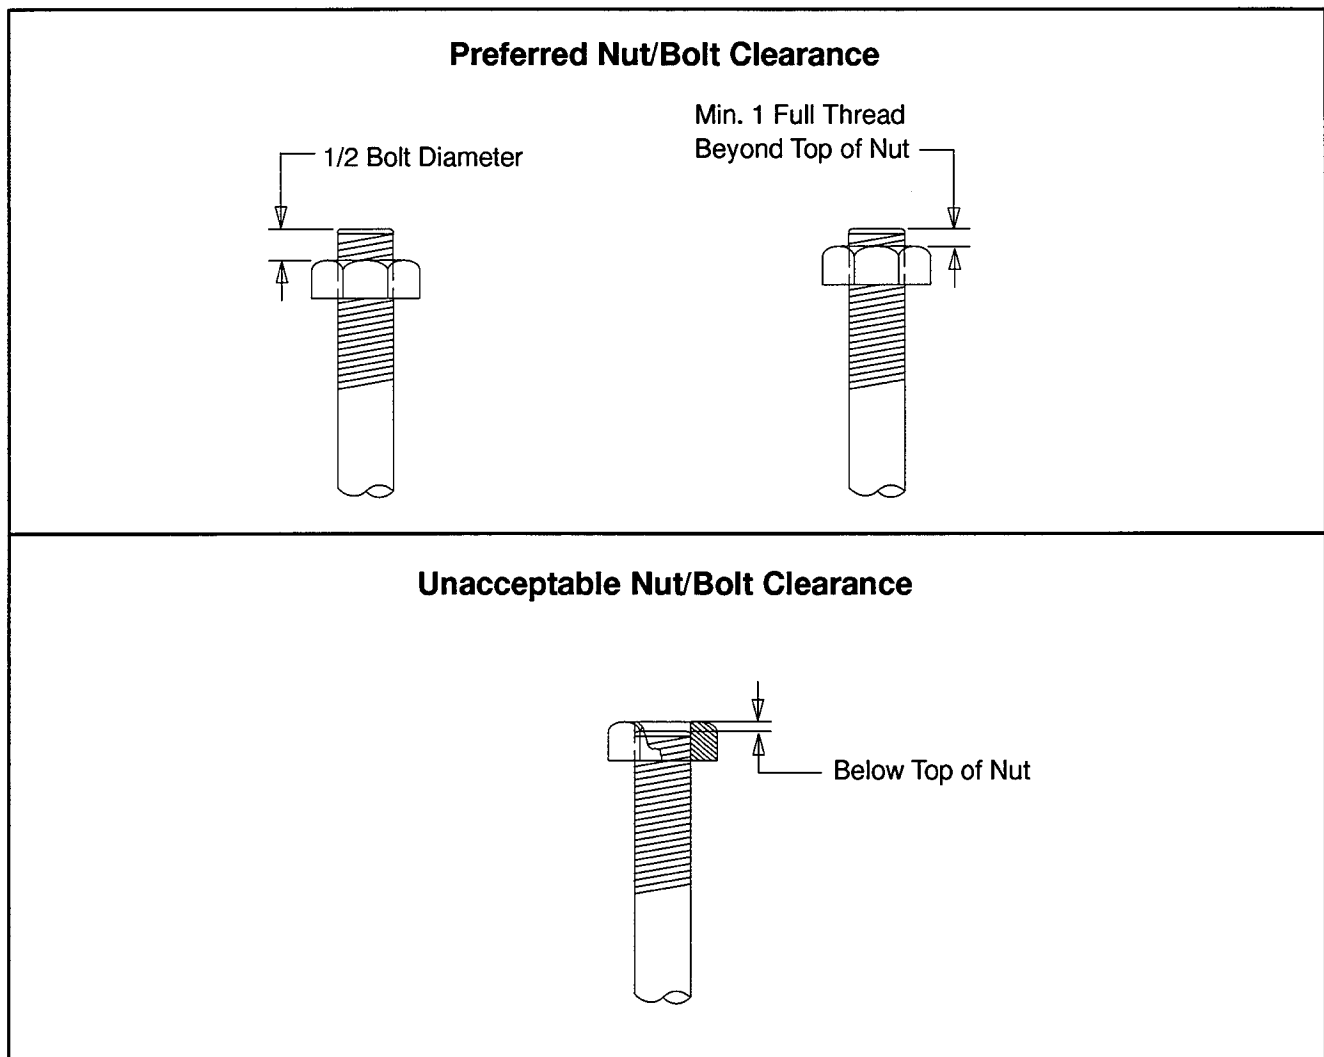

Figure 10-1. Acceptable Bolt Lengths
- **Bolt/Screw Length:** When bolt/screw length is not given, use Figure 10-1 as a guide. As a general